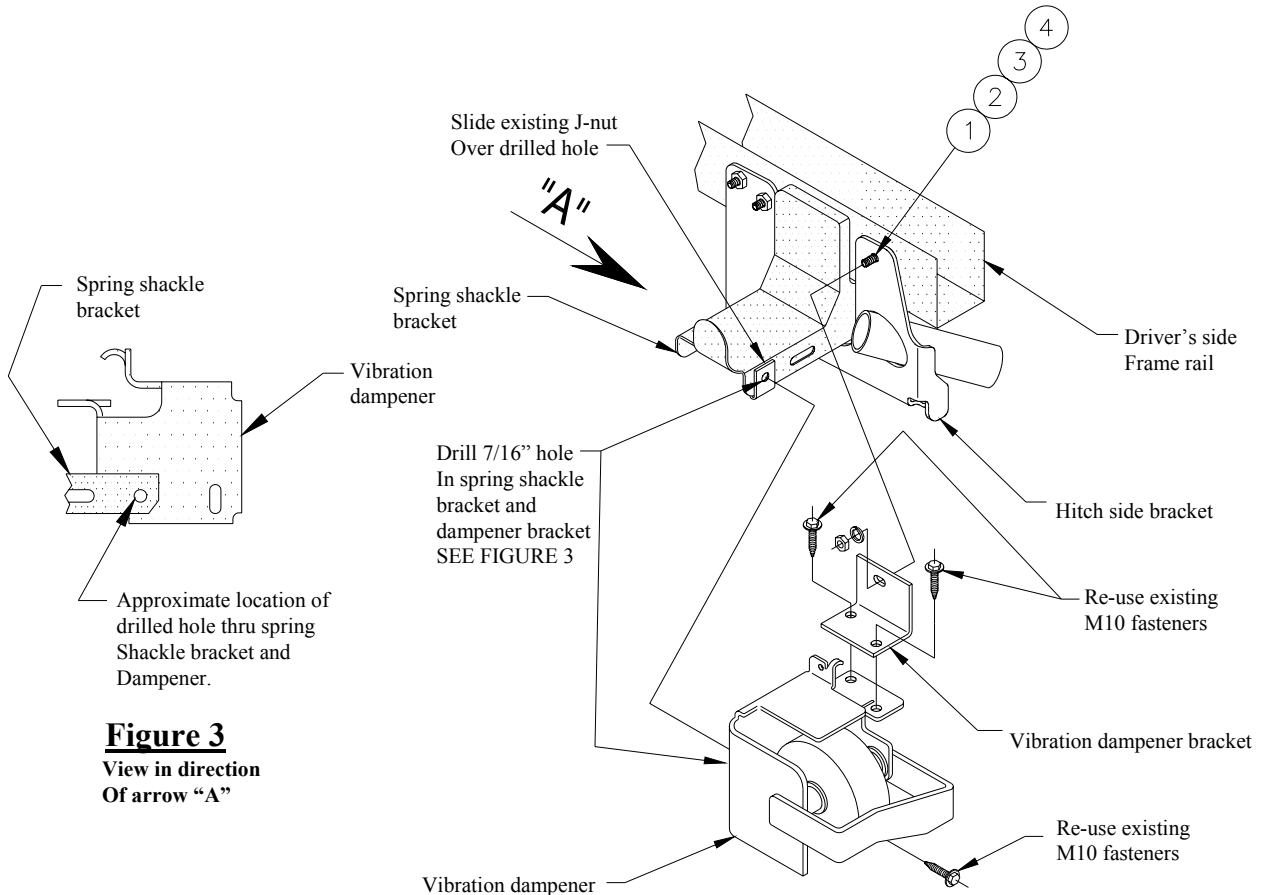

Figure 3
4. Drill 7/16" hole thru spring shackle bracket and adjoining face of dampener bracket as shown in Figure 3. Install existing M10 fastener as shown in figure 2.